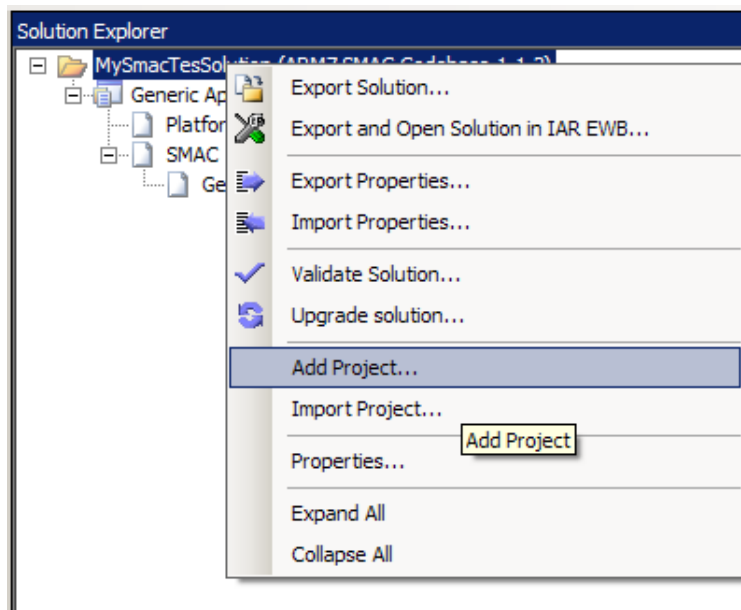

Figure 1-4. Adding a New Project to a Existing Solution
4. Add other required projects for the evaluation as shown in Figure 1-4.